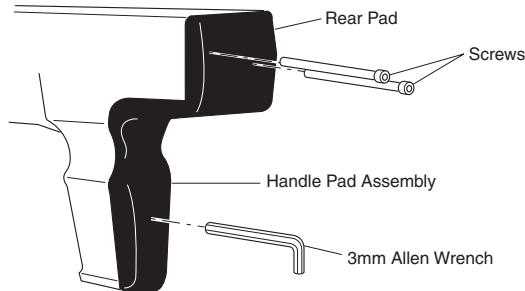

Figure 5 - Removing Handle Pad Assembly and Rear Pad
2. Remove handle pad assembly and rear pad. Do not remove the screw from the handle pad assembly (see Figure 5).